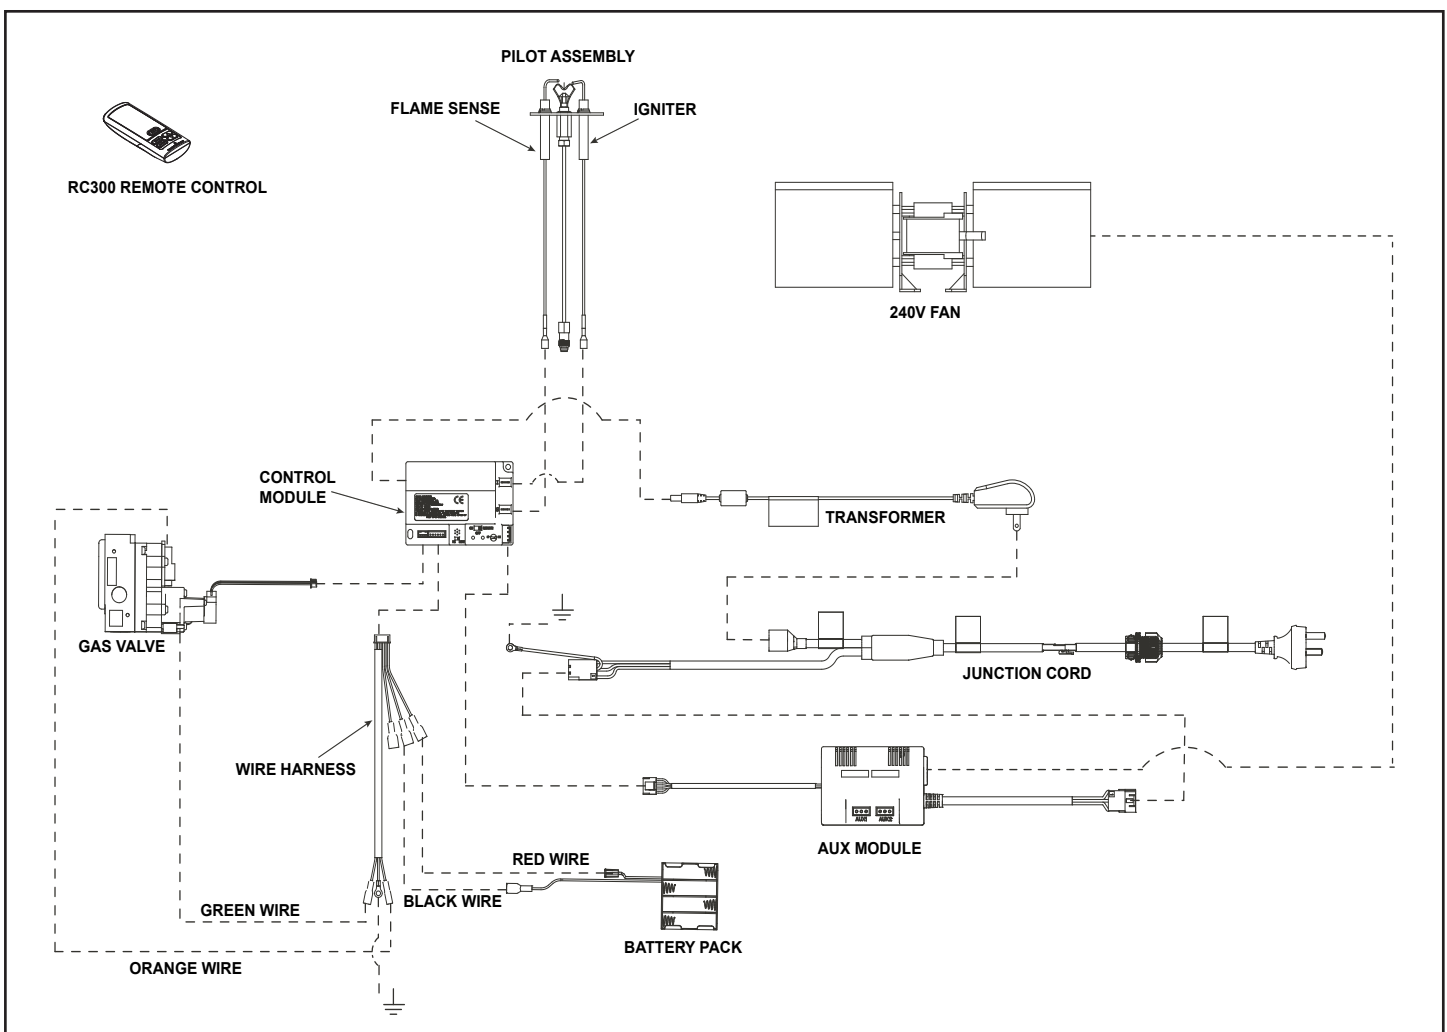

Figure 8.3 IntelliFire™ Plus Wiring Diagram with Remote
- Refer to Figure 8.3, IPI Wiring Diagram.
The junction cord and control module can be accessed by removing the vanity panel and component heat shield. The decorative front must be removed to access these components. See Figure 8.3.